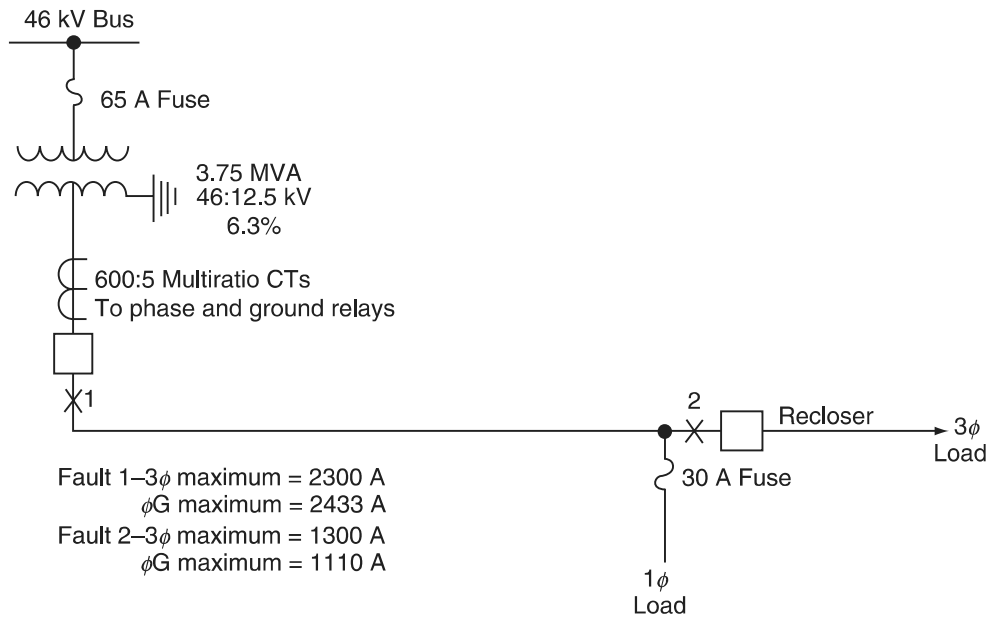

FIGURE P12.1
- 12.1** The 12.5 kV distribution feeder (Figure P12.1) has two taps. One is protected by three oil circuit reclosers with 70/140 A coils set as in Table P12.1. The other tap is a single-phase circuit protected by one 30 A fuse operating as shown in Table P12.2. The data for the 46 kV fuse is in Table P12.3. The phase and ground relays are very inverse time overcurrent with instantaneous units. Their time–overcurrent characteristics are shown in the typical curves of P12.11. Fault currents are in amperes at 12.5 kV.